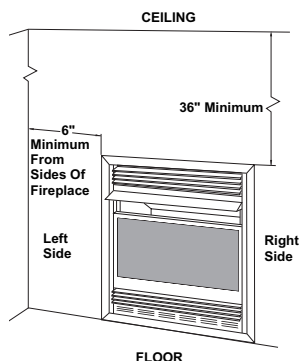

Figure 8 - Mounting Clearances As Viewed From Front of Fireplace Shown Built In The Wall
**WARNING:** Maintain the minimum clearances shown in Figures 8 and 9. If you can, provide greater clearances from floor, ceiling and joining wall.